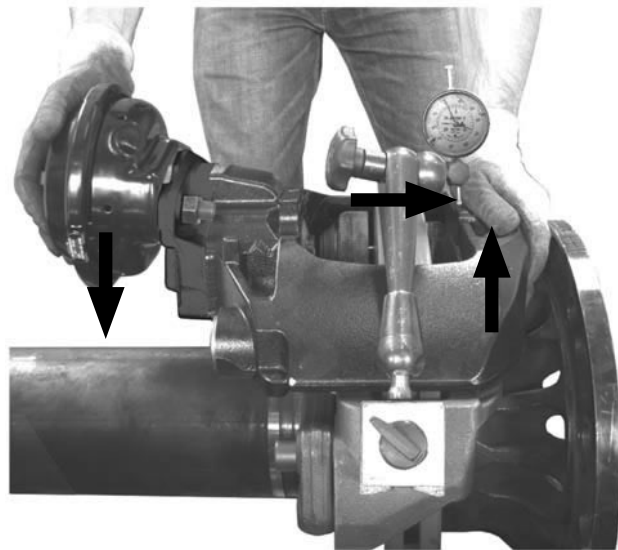

Figure 14: *Tilting brake chamber to axle*
4. **Fasten** the magnetic dial indicator support to the brake carrier or the axle (Figure 14).
6. **Press** the dial indicator against the measuring point on the brake caliper (Figure 14).